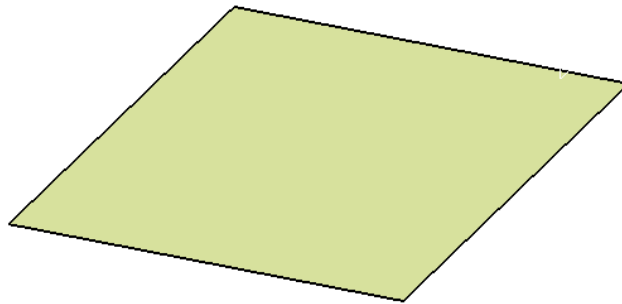

Figure 18-56 A planar surface
4. Retaining rest of the default options in the **Unified Patch** dialog box, choose the **OK** button from this dialog box and close it. Figure 18-56 shows the resultant planar surface.